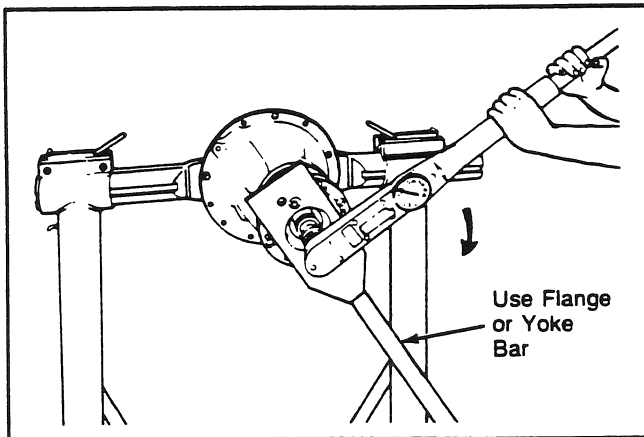

Fig. 51
5. Fasten a yoke bar to the input yoke. The bar retains the drive pinion when you tighten the assembly nut. Tighten the nut to the specified torque (see Fig. 51). Remove the yoke bar.